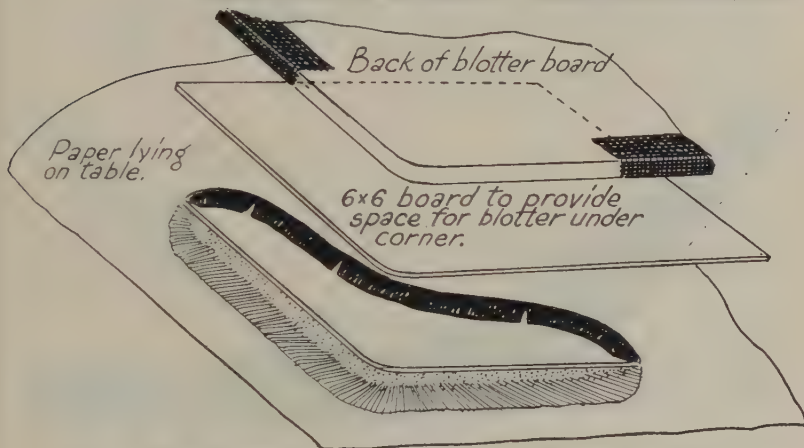

FIG. 126—PLACING THE CORNERS, SPACE BOARDS AND BASEBOARD IN POSITION TO AFFIX CORNERS
2. Above each corner, lay one of the 6" x 6" pieces, with its rounded corner just over the rounded corner of the four individual corner boards. (Fig. 126.)
3. Next, lay the large blotter board *lined-out side down* on top of these four board pieces. Move each pair of corners and boards until each are exactly under the other. (Fig. 126.)